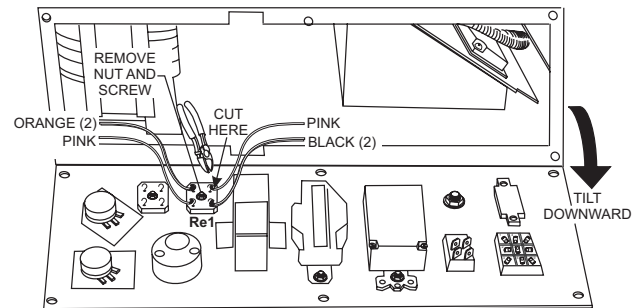

Figure 2. Rectifier Re1 Removal Removal
- Tilt the front panel downward (Figure 2) to gain access to the control box wiring. If necessary support the front panel to reduce the strain on the internal wiring.
- Using wire cutters, cut all wires connected at the terminal leads of rectifier Re1 (Figure 2).